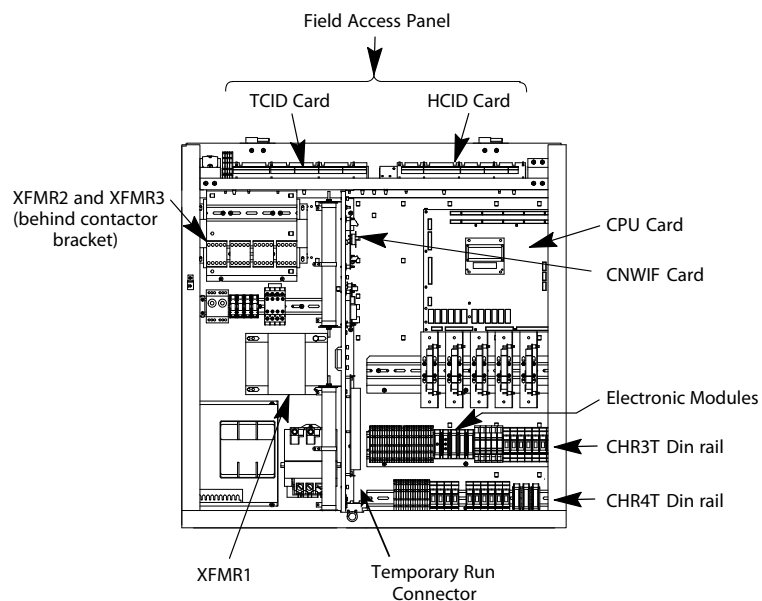

Figure 1 - Controller Component Layout
3. Ensure that the XFMR1 transformer taps match the mainline voltage. See Figure 1 and Table 1 on page 2.